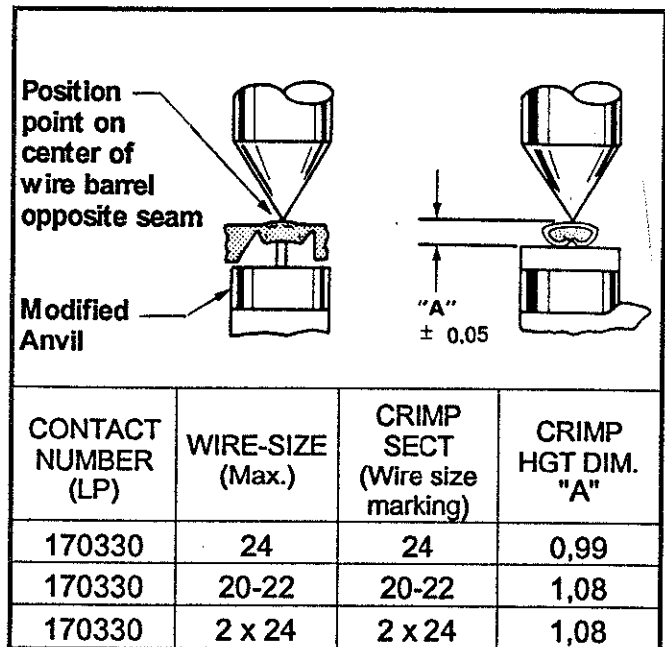

Figure II-2
This inspection requires the use of a micrometer with a modified anvil as shown in Figure II-2.
1. Refer to the chart in Figure II-2 and select a contact to a wire (maximum size) for each crimp section listed in the chart.
3. Using a crimp height comparator, measure wire barrel crimp height as shown in Figure II-2. If the crimp height conforms to that shown in the chart, the tool is considered dimensionally correct. If not, return the tool to AMP for evaluation and repair.